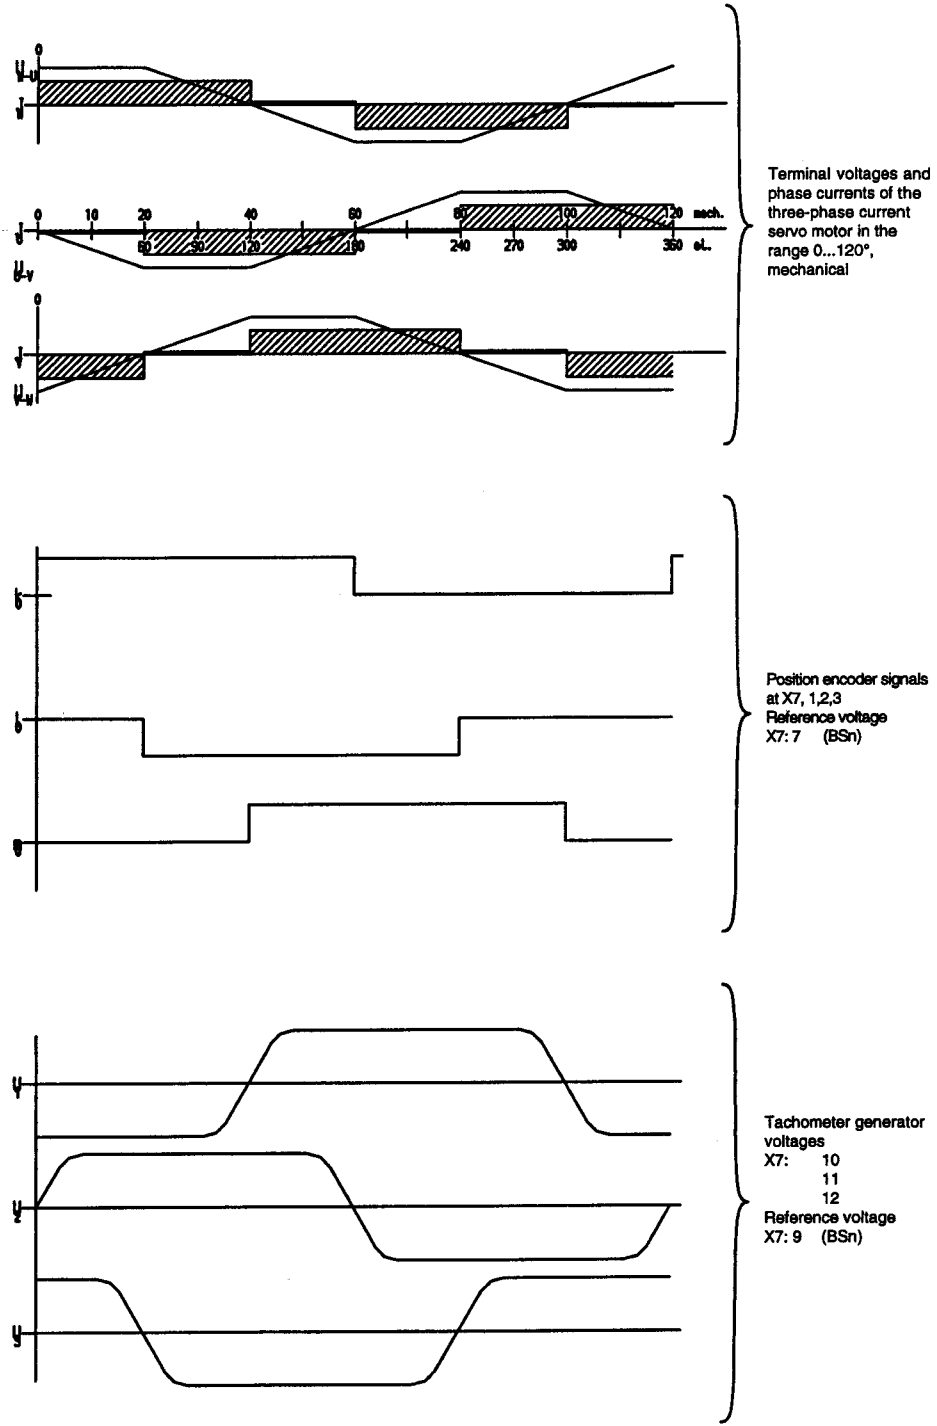

Figure 1
- Drive the motor via the shaft at a constant speed while checking the tachometer voltage, U_1 , U_2 , U_3 , the position encoder signals k, l, m and the terminal voltages in accordance with Figure 1.